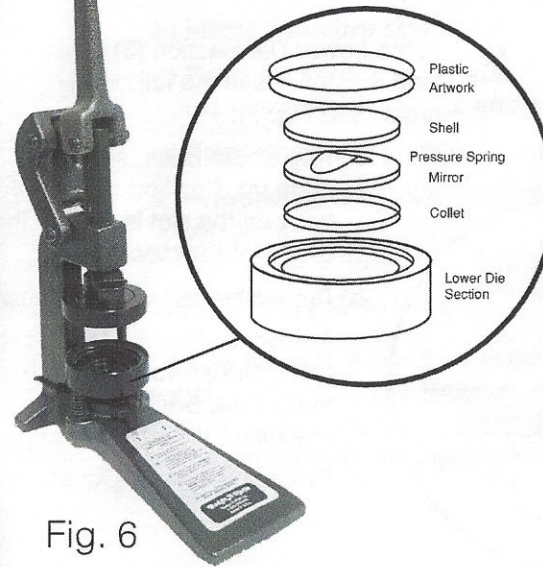

Fig. 6
2. In the Lower Die Section (3), load these parts in the following order (see Fig 6):